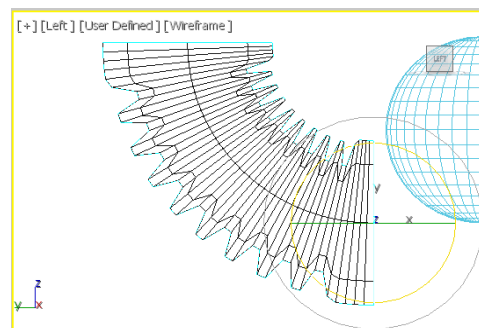

Figure 3-34 The *spring support* geometry rotated in the **Left** viewport
9. Right-click on the **Select and Rotate** tool; the **Rotate Transform Type-In** dialog box is displayed. In the **Offset: Screen** area, set **90** in the **Z** spinner and press ENTER; *spring support* is rotated, as shown in Figure 3-34. Now, close the **Rotate Transform Type-In** dialog box.